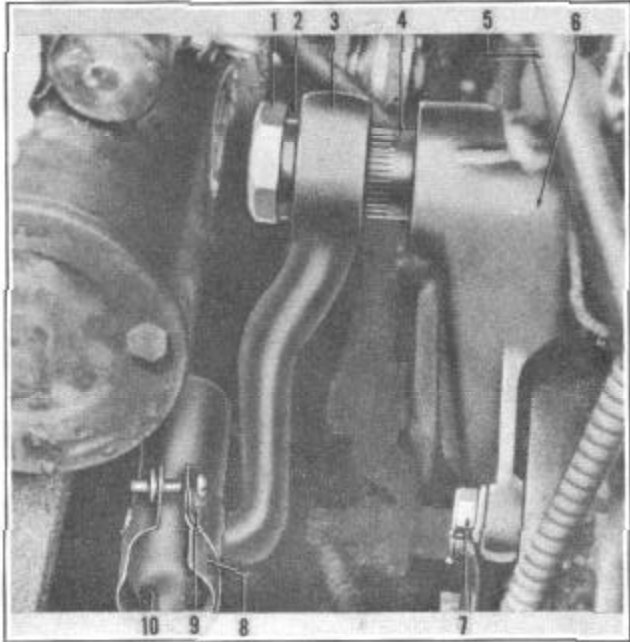

FIGURE 5
5. Remove three bolts (7), Figure 5, attaching steering gear to side frame.
6. Remove key and plug from drag link (10) at pitman arm and disconnect drag link.
1. Remove key and plug from drag link at pitman arm and disconnect drag link (10), Figure 5.
4. Remove nut (1), Figure 5, and lockwasher attaching pitman arm to steering gear.